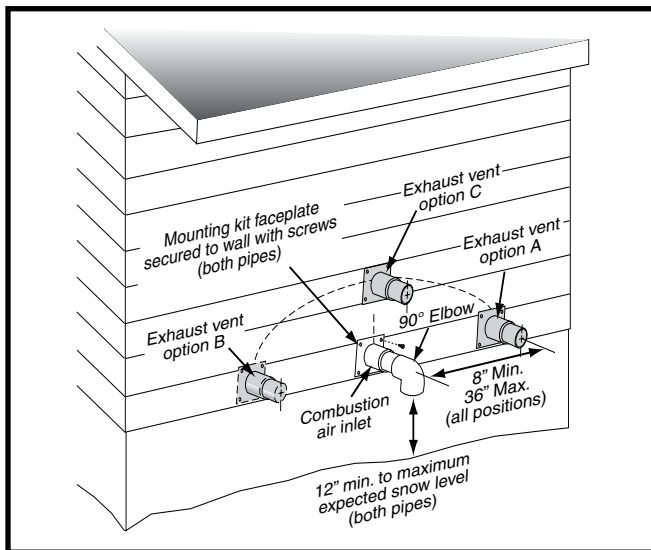
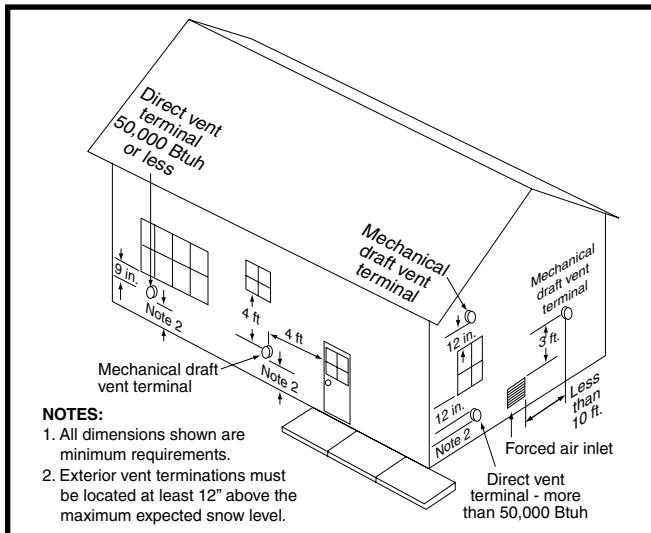
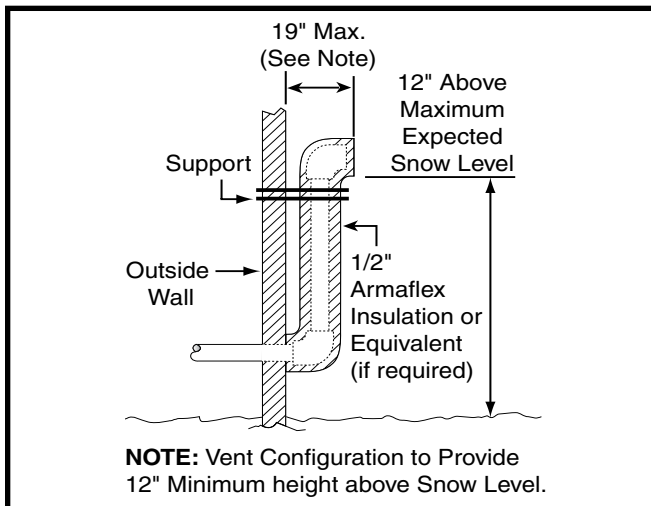
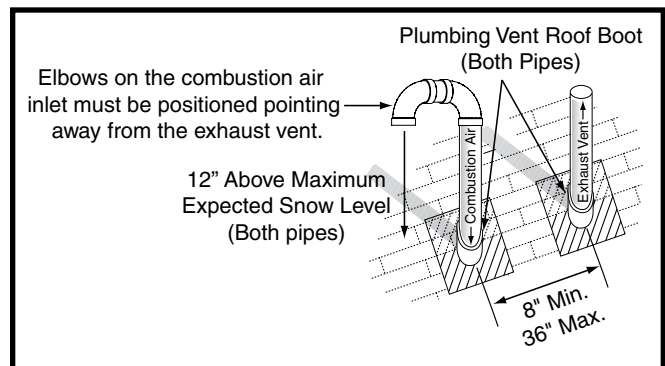

Figure 7. Inlet & Exhaust Pipe Clearances
Figure 8. Vent Locations
Figure 9. Alternate Horizontal Vent Installation
Figure 10. Vertical Vent Termination
- If a Direct Vent (2-pipe) system is used, the combustion air intake and the vent exhaust must be located in the same atmospheric pressure zone. This means both pipes must exit the building through the same portion of exterior wall or roof as shown in Figure 7, Figure 8, Figure 9, & Figure 10.
- Vent and combustion air intake terminations shall be installed as depicted in Figure 7 & Figure 8 and in accordance with these instructions:
- All minimum clearances must be maintained to protect building materials from degradation by flue gases. See Figure 7.
- When the vent pipe must exit an exterior wall close to the grade or expected snow level where it is not possible to obtain clearances shown in Figure 7 (page 12), a riser may be provided as shown in Figure 9. Insulation is required to prevent freezing of this section of pipe. See Table 2 (page 13) for vent freezing protection.
Termination spacing requirements from the roof and from each other are shown in Figure 10. The roof penetration must be properly flashed and waterproofed with a plumbing roof boot or equivalent flashing. Vent and combustion air piping may be installed in an existing chimney which is not in use provided that:
- The termination clearances shown in Figure 10 are maintained.